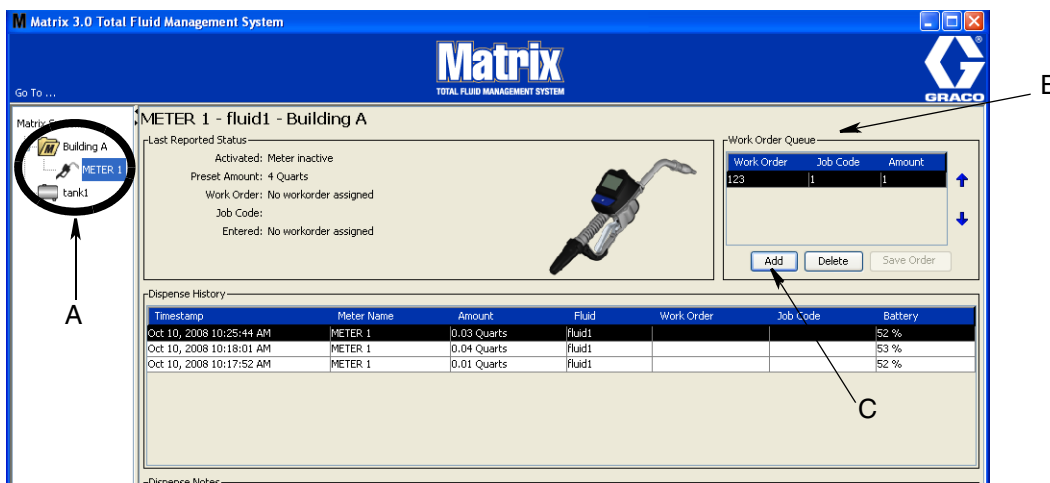

FIG. 186
1. In the System Administrator Defined Groups area of the Matrix Main Screen (A), select the meter you are sending the Work Order to (FIG. 186).
2. In the Work Order Queue section (B) of the screen click the Add button (C) (FIG. 186). A list of work orders available to that meter displays.